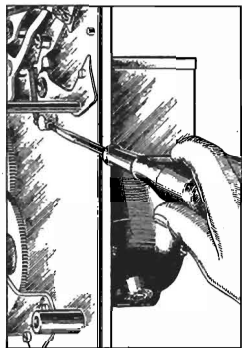

Figure 6—Adjusting tone arm locating screw
- (b) Improper adjustment of tone arm locating screw. This adjustment, shown in Figure 6, can be used to make a substitute adjustment for that described in (a), when the mechanism is out of the cabinet. Make the adjustment so that the needle will lower exactly $\frac{1}{16}$ " from the first groove on a standard 10-inch record. Loosen the lock nut on the adjusting screw by means of a No. 4 Spintite wrench on which the shoulder has been ground sufficiently thin for clearance. Do not attempt to make this adjustment without first loosening the lock nut. Tighten the lock nut when the proper adjustment has been made.
(4) FAILURE OF NEEDLE TO LOWER ONTO RECORD SURFACE